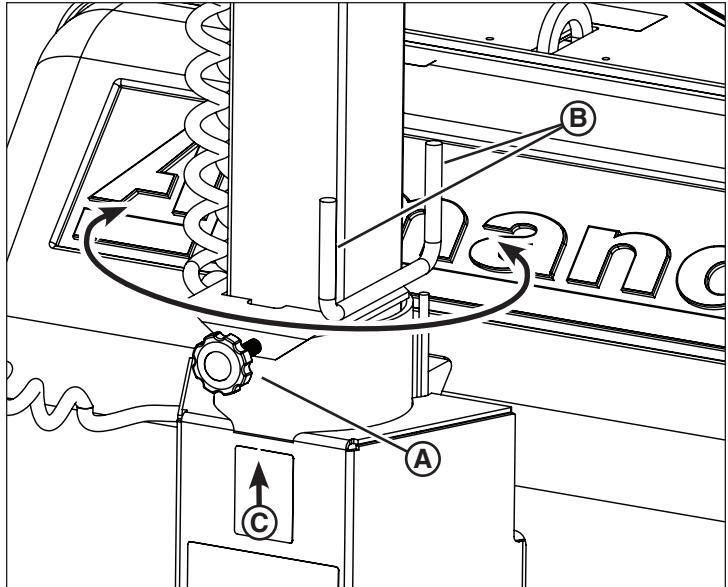

Figure 17
2. Loosen the light tower locking knob (A, Figure 17).
3. Using the handles (B, Figure 17), rotate the light tower in the desired direction.
5. When lighting operations are complete, rotate the light tower to the transport position: Align the light tower locking knob with the front center of the light tower base (C, Figure 17). Be sure to tighten the light tower locking knob securely.